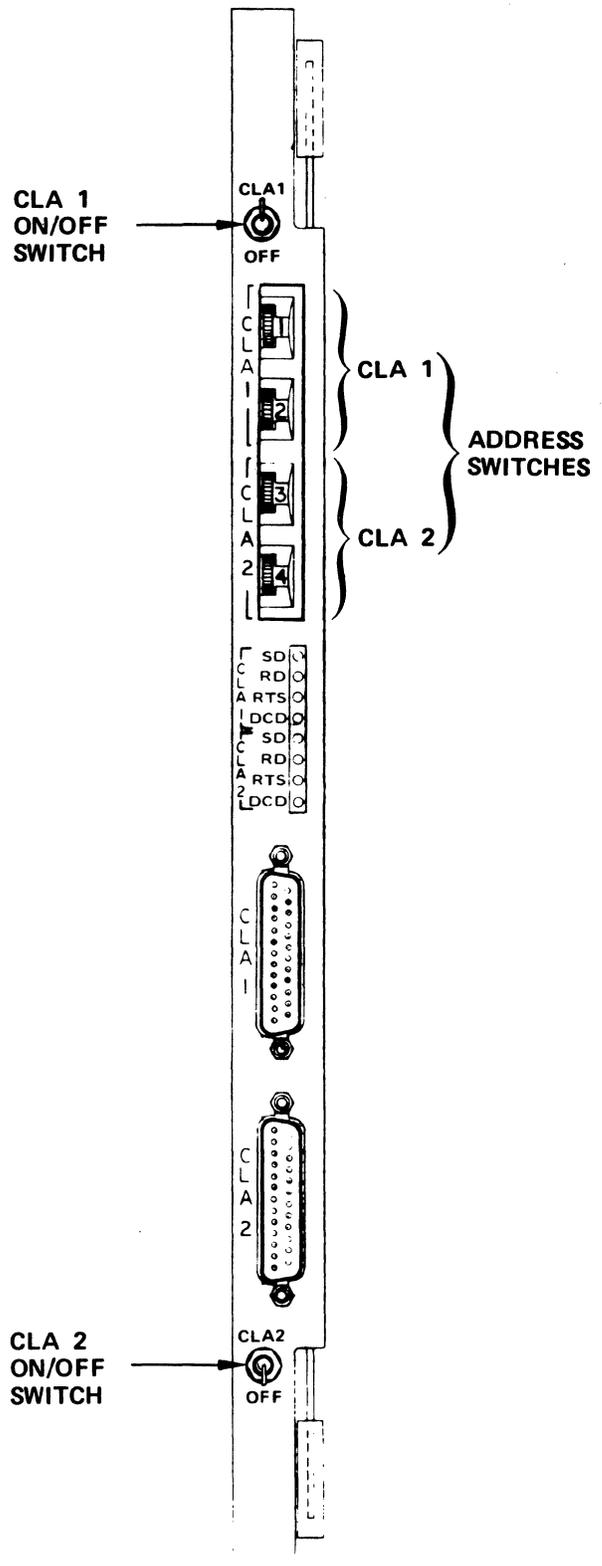

Figure 2-2. CLA Circuit Card On/Off Switch Locations
3. On the CLA circuit card, set the CLA ON/OFF switch to ON. See figure 2-2. Only those cards that are configured are affected.